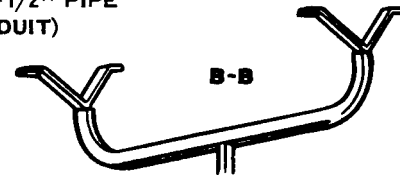

Figure 1
The lifting cradle accepts two types of adaptors. The straight adaptor for flat objects (light fixtures, duct work, ceiling tiles). The "V" shaped adaptor is used primarily for conduit, pipe, or other rounded objects up to 2 1/2" in diameter. (See Figure 1)
1. Select and install adaptors on the lifting cradle. Straight adaptors slip over the cradle arms; the "V" adaptors are inserted in the cradle arms. (Refer to Figure 1)